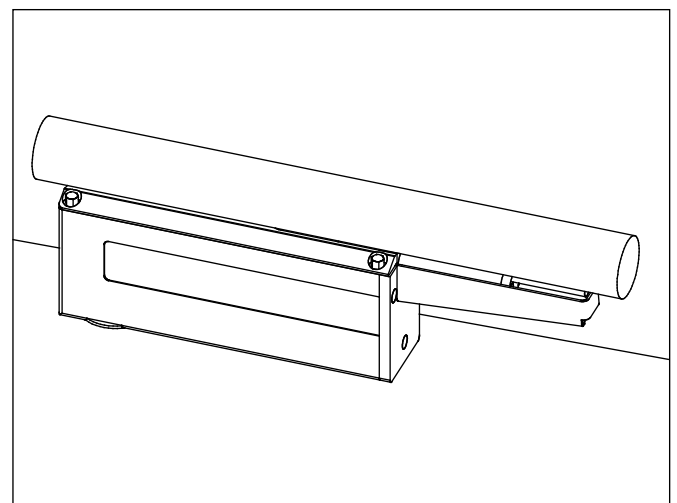

Fig. 9
- For measuring on long cylindrical testpieces with a diameter larger than 30 mm (1.181 in), the MarSurf GD 25 / GD 25 plus can be placed upside down such that the support prism serves as workholding device (see Fig. 9). As the case may be, the back central support foot has to be removed.